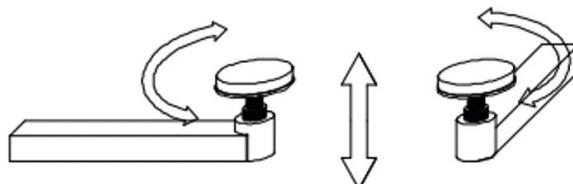

Figure 15
8. Check that the main lifting platform does not touch the chassis of the vehicle being lifted; if necessary, adjust the pads. Adjust the height of the pads by rotating clockwise and anticlockwise (Figure 15)
- c). Adjust the height of the pads by rotating clockwise and anticlockwise (Figure 15)